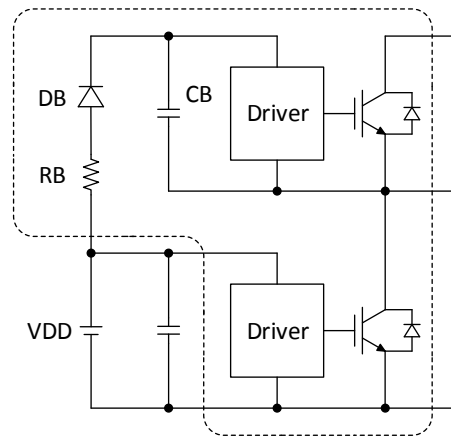

Figure 17. Boot Strap Circuit
VB1, VB2, VB3 The VBx pins are internally connected to the positive supply of the high-side drivers. The supply needs to be floating and electrically isolated. The boot-strap circuit shown in Figure 17 forms this power supply individually for every phase. Due to integrated boot resistor and diode (RB & DB) only an external boot capacitor (CB) is required.